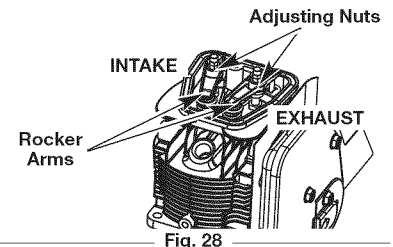

Fig. 28
7. Slide the feeler gauge between the rocker arm and the valve return spring. Measure the clearance between the valve stem and rocker arm (Fig. 28). Measure both the intake and exhaust valves.
The recommended clearance for both intake and exhaust is .003 – .006 in. (.076 – 0.152 mm). Use a standard automotive .005 in. (0.127 mm) feeler gauge. The feeler gauge should slide between the rocker arm and valve stem with a slight amount of resistance, without binding. See Figures 28 and 29.